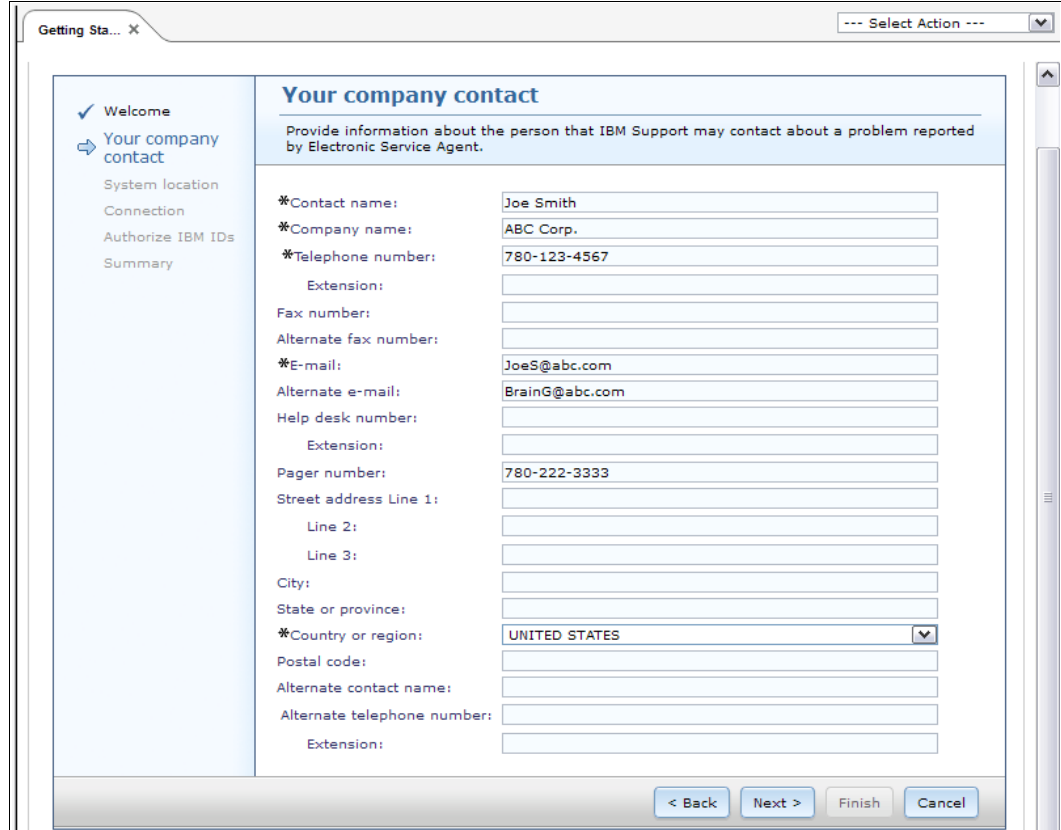

Figure 13-47 Company contact information
2. Click **Next**. Provide information about the person that IBM Support can contact about a problem reported by Electronic Service Agent. See Figure 13-47.